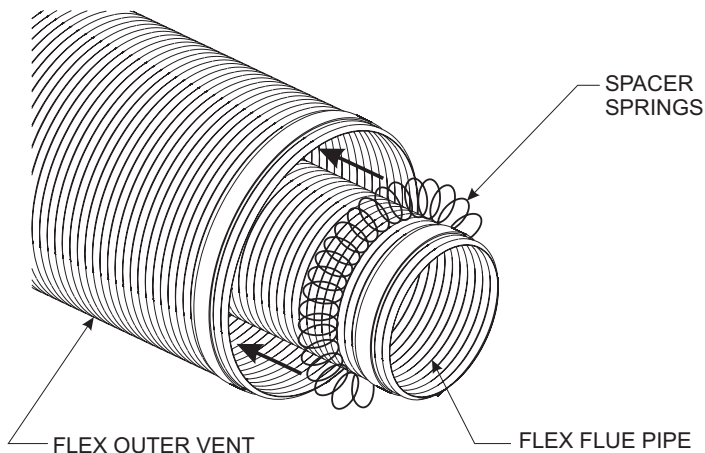
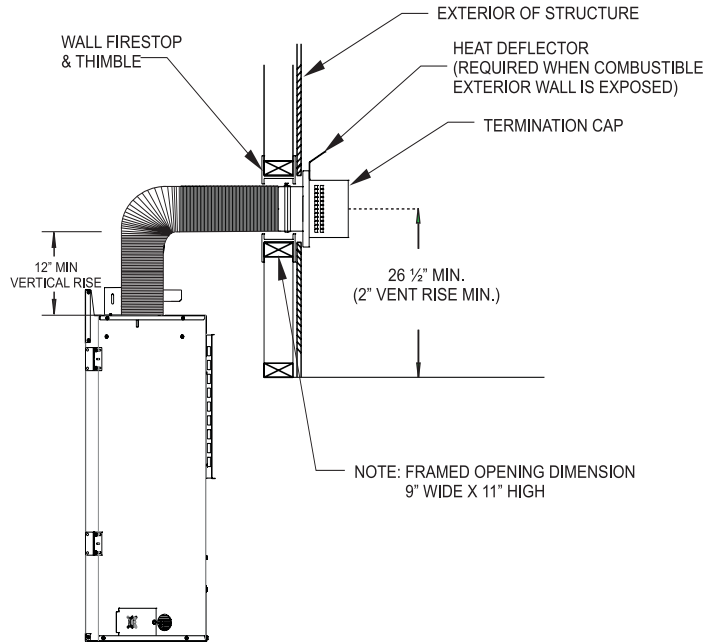

Figure 70
Figure 71
- Check to see that the vent spacer springs are located around the flue vent at 8" and 12" intervals along its length. **See Figure 70.** If not, stretch the spacer springs to about 15" long and wrap them around the flue, then interlock the ends of each spring about 2". **See Figure 71.** Maintain equal distance between spring spacers.